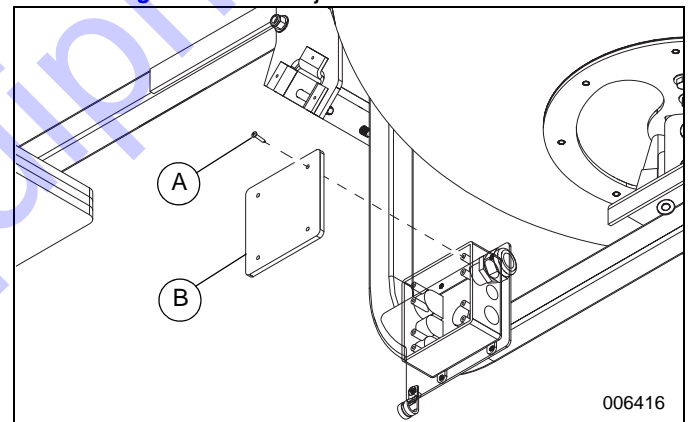

Figure 15. Junction Box Cover Installation
12. See **Figure 15**. Install junction box cover.
12. See Figure 15. Install junction box cover.